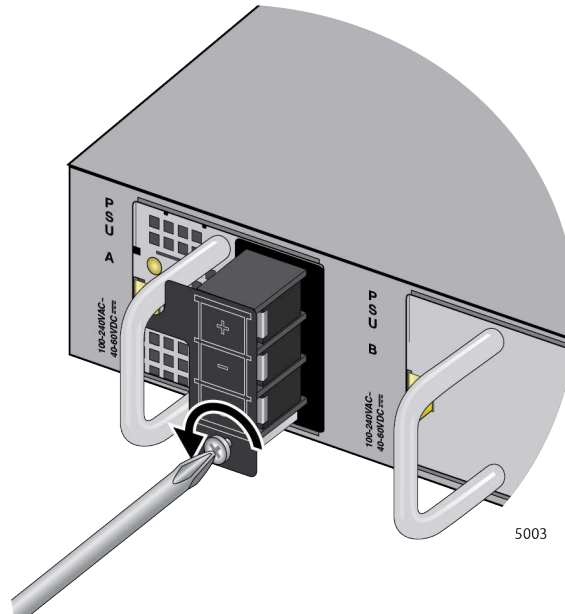

Figure 64. Loosening the Screw for the Panel
2. Loosen the screw for the connector panel several turns with a Phillips-head screwdriver. Refer to Figure 64 on page 132.